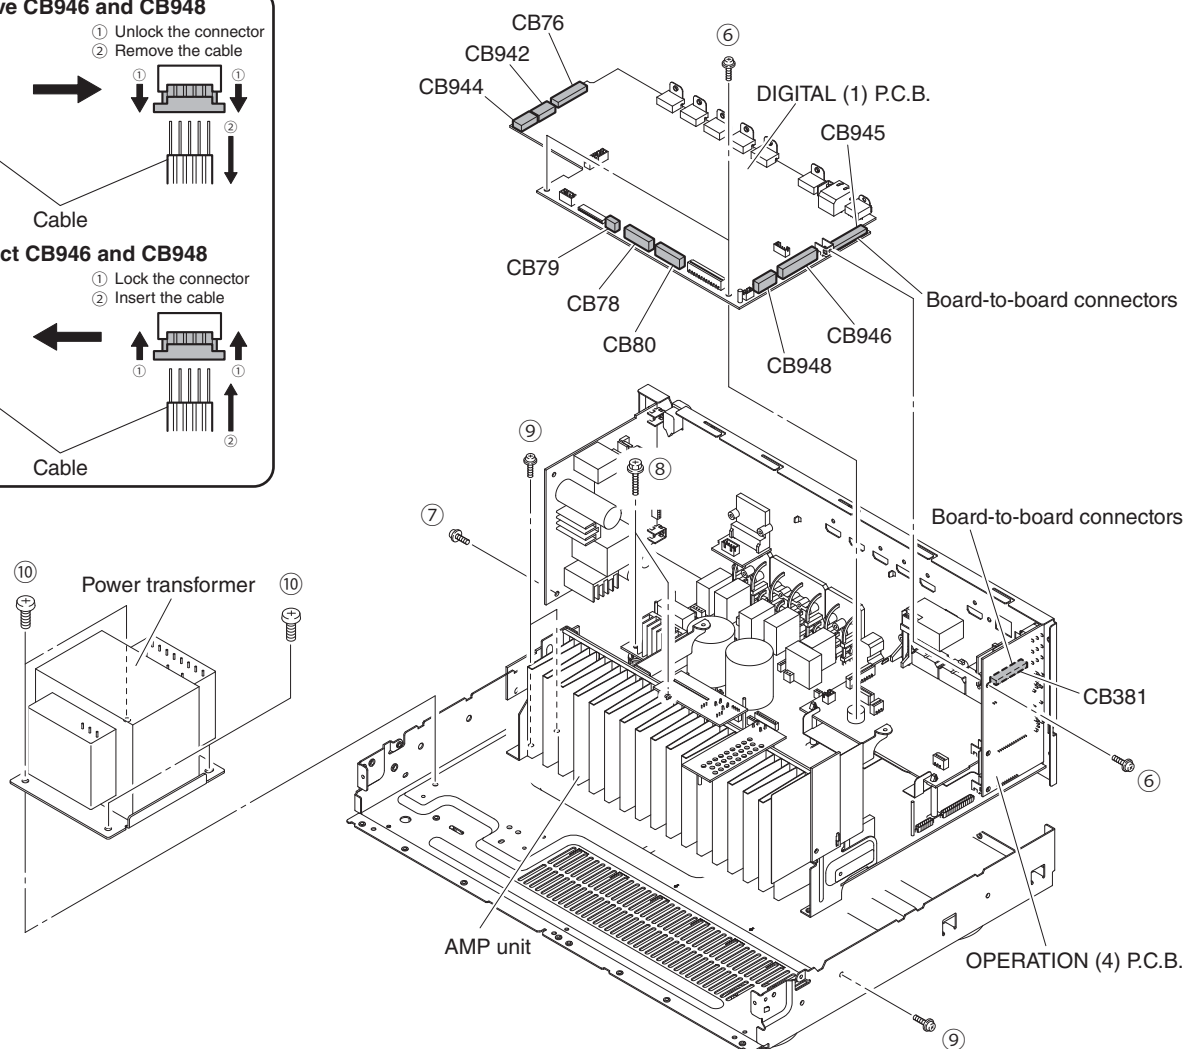

Fig. 2
- Remove 3 screws. (6). (Fig. 2)
- Remove CB76, CB78, CB79, CB80, CB942 and CB944. (Fig. 2)
- Unlock and remove CB946 and CB948. (Fig. 2)
- Remove the DIGITAL (1) P.C.B. which is connected directly to the OPERATION (4) P.C.B. with board-to-board connectors. (Fig. 2)
- Remove screw (7), 2 screws (8), 3 screws (9) and 4 screws (10). (Fig. 2)
- Remove the AMP unit together with the power transformer. (Fig. 2)